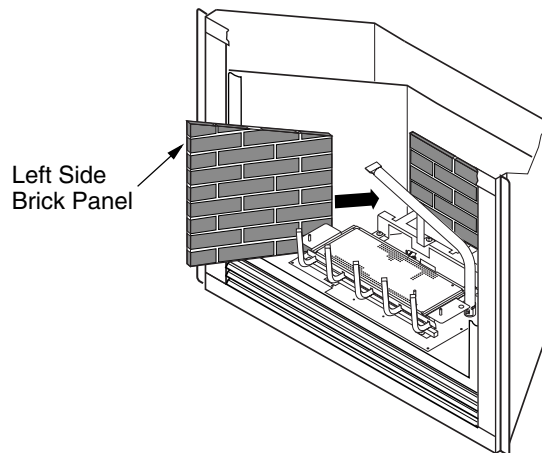

Figure 44 - Installing Side Brick Panels
6. Install left side brick panel by sliding it between the grate and the side of the firebox (see Figure 44).